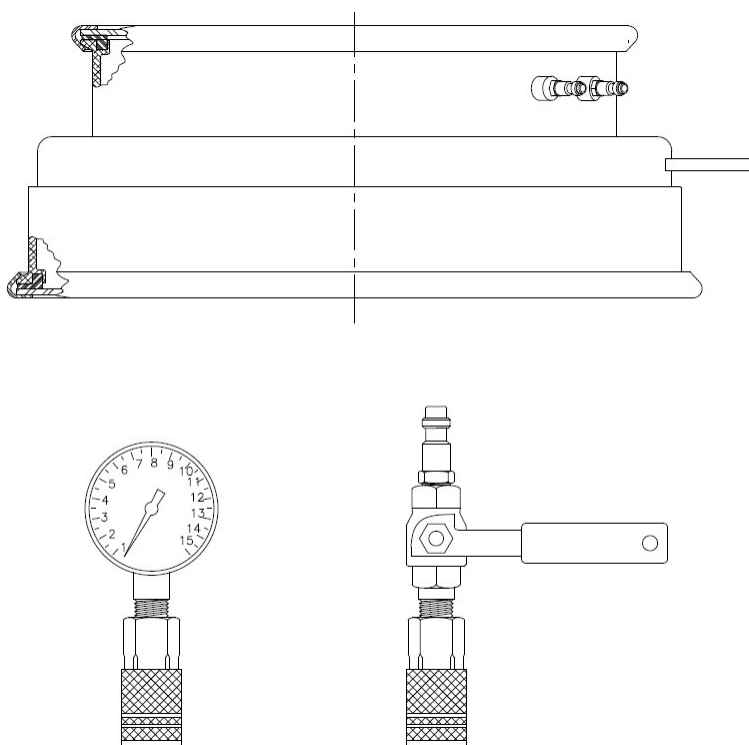

Figure 2
3.	Attach the Manhole Assembly to an appropriate Bench Pressure Test Fixture such as Civacon Bench Test Fixture P/N 5428A. See Fig. 2